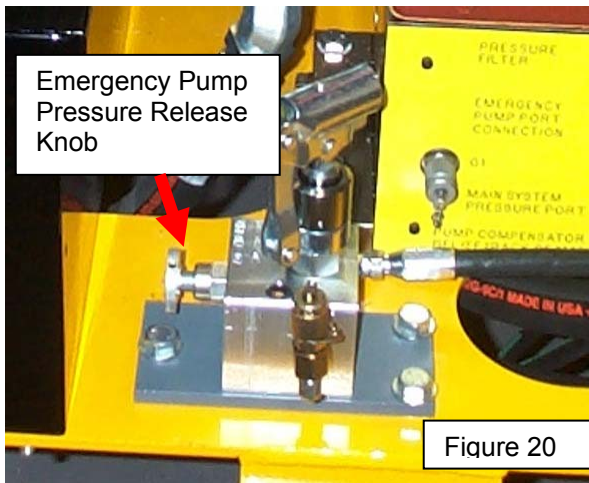

Figure 20
5. Pressurize the emergency hydraulic hand pump by turning the pressure release knob (Figure 20) clockwise (CW) until tight. Using the emergency hydraulic hand pump handle, stroke the pump lever downward repeatedly to pressurize the pump.
8. Release the emergency hydraulic hand pump by turning the pressure release knob (Figure 20) counterclockwise (CCW).
8. Turn the brake lock-off valve to the OPEN position (Figure 20) and verify that the brake shoes are locked OFF with brake lock pins inserted on all 4 wheels.
11. Pressurize the emergency hydraulic hand pump by turning the pressure release knob (Figure 20) clockwise (CW) until tight. Using the emergency hydraulic hand pump handle, stroke the pump lever downward repeatedly to pressurize the pump until the hydraulic brake cylinders have collapsed.
5. Attach one end of the hose (found in the toolbox) to the quick disconnect at the pressure tap of the emergency hydraulic hand pump (Figure 20) and attach the other end of the hose to the turntable valve pressure tap (Figure 26).
6. Pressurize the emergency hydraulic hand pump by turning the pressure release knob (Figure 20) clockwise (CW) until tight. Using the emergency hydraulic hand pump handle, stroke the pump lever downward repeatedly to pressurize the pump.